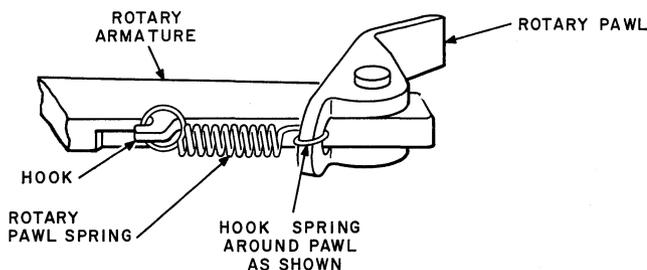

Fig. 21 — Method of Attaching Pawl Spring to Rotary Armature Pawl
(1) To replace the rotary pawl spring, unhook the rotary pawl spring from the hook pin on the armature and also from the pawl, using the 6-inch tweezers. Hook the open end of the new spring around the pawl and place the looped end over the hook or pin as shown in Fig. 21.
(2) The tension of the spring after it has been placed in this position should be sufficient to hold the pawl in its extreme forward position.